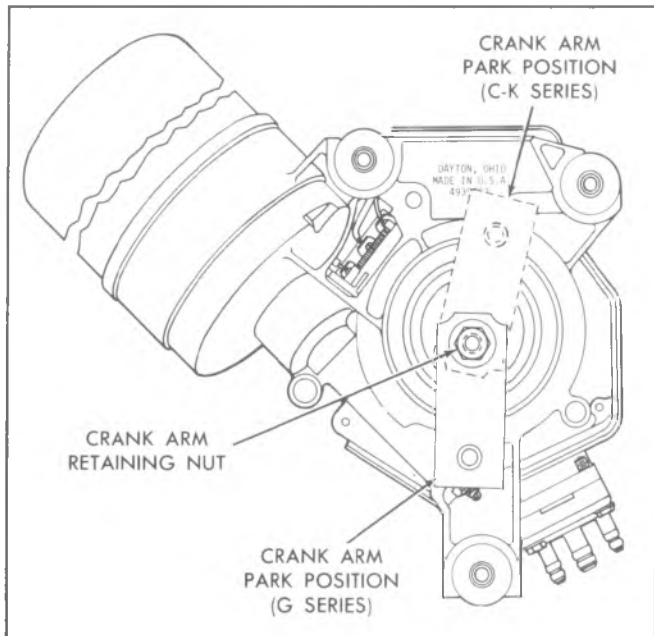

Fig. 8-26--Crank Arm in PARK Position
3. Clamp crank arm in vise and loosen crank arm retaining nut. Remove nut and crank arm (fig. 8-26).
1. Operate wiper gear to park position (fig. 8-26).
2. Position crank arm on gear shift flats according to position shown in Figure 8-26.